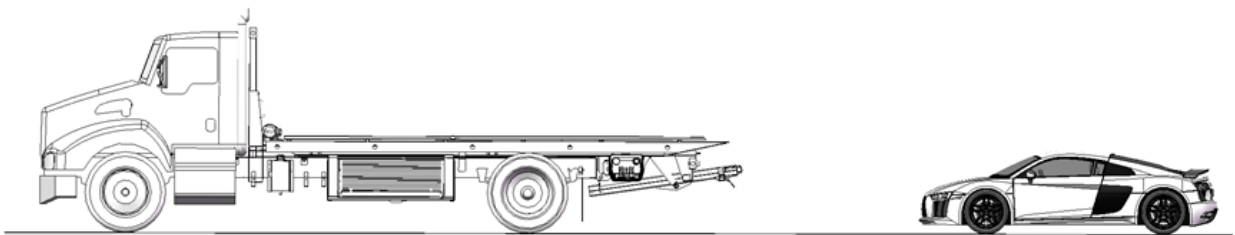

FIGURE 29 – PREPARATION DISTANCE: 10 TO 15 FEET
2. Position your truck in front of the vehicle to be hauled and put it in reverse. Back up, leaving a distance of 10 to 15 feet between the two vehicles, as illustrated in Figure 29.